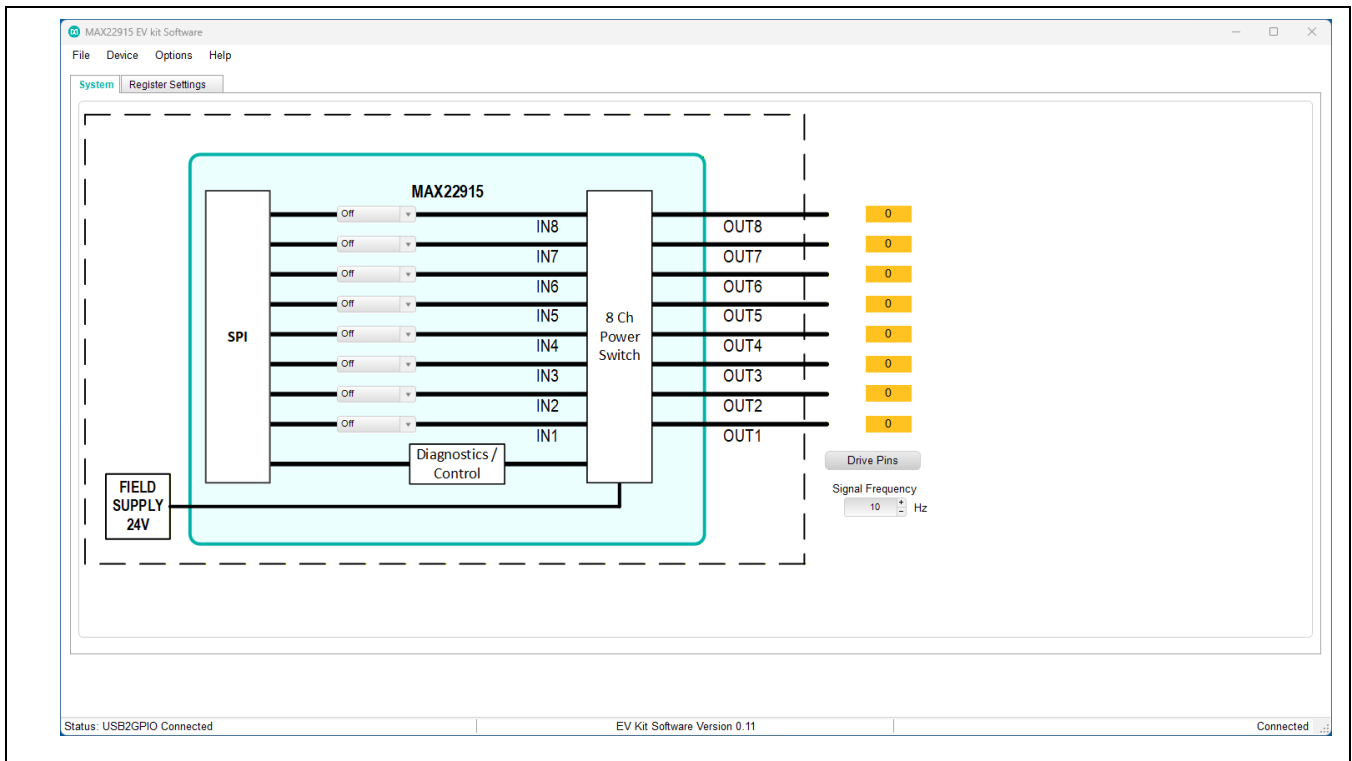
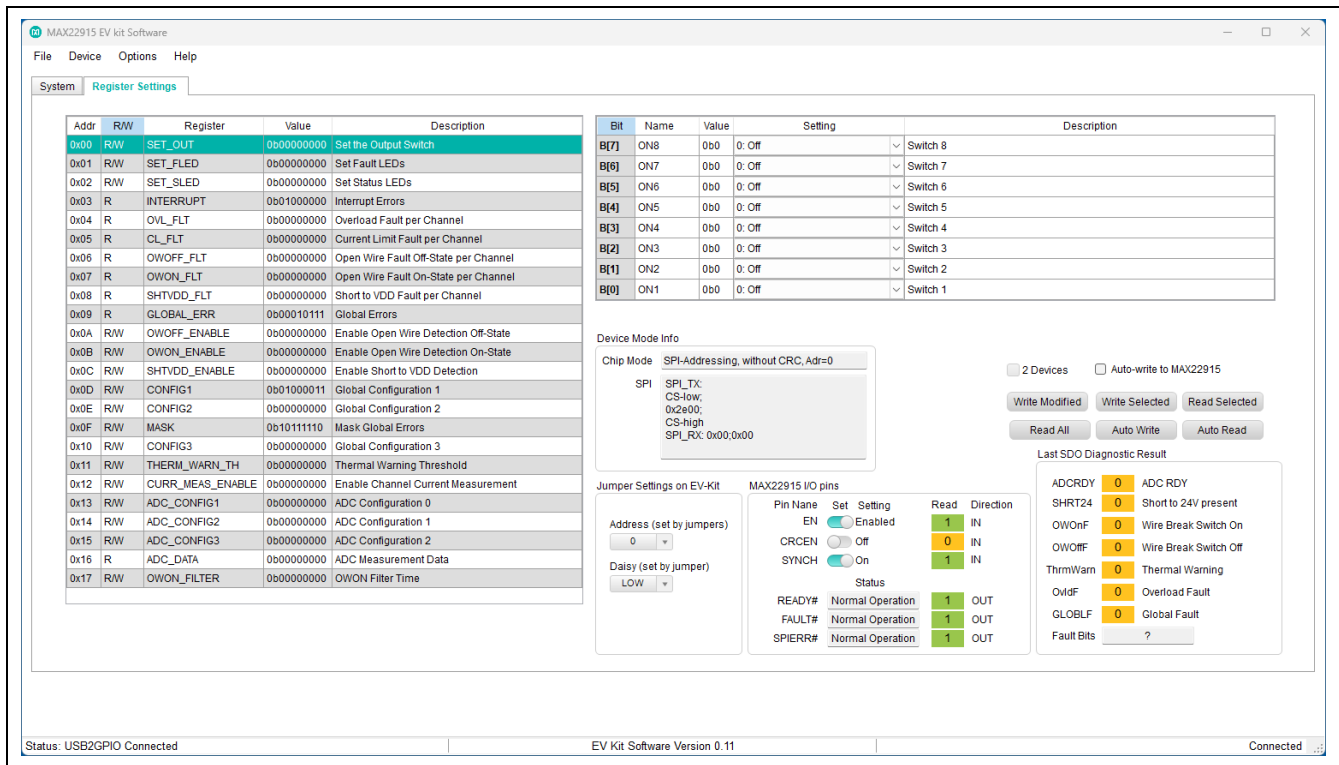

Figure 1. MAX22915 EV Kit GUI System Tab
Figure 2. MAX22915 EV Kit GUI Register Settings Tab
- Start the EV kit software by opening its icon in the Start | Programs menu. Select the MAX22915EVKIT button in the startup window. The EV kit software appears, as shown in Figure 1. Verify that the lower-right status bar indicates the EV kit hardware is Connected. The GUI automatically detects EV kit is connected to the PC and enables serial communication. A user can change any configuration on **Register Settings** tab, as shown in Figure 2.